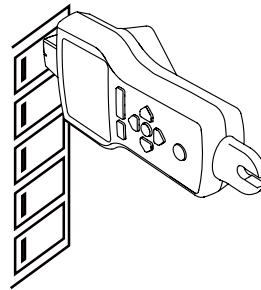

Figure 3.3e: Correct alignment of
2. Scan each breaker/fuse for a second by touching it with the Tip Sensor. Make sure the groove on the Tip Sensor is parallel to the breaker/fuse lengthwise (Figure 3.3e).
2. Rescan each breaker/fuse by touching each with the Tip Sensor for a second. Active red arrow indicates scanning process. Make sure the groove on the Tip Sensor is parallel to the breaker/fuse lengthwise (Figure 3.3e).